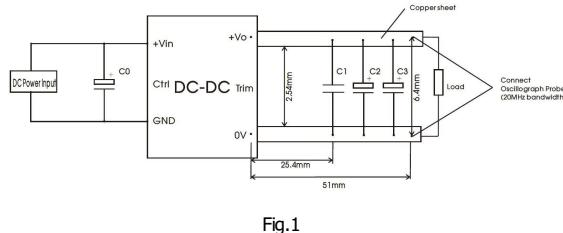

Fig.1
(1)The "Tip and barrel method" is used for ripple and noise test, for details please refer to Fig.1.
All the DC-DC converters of this series are tested before delivery using the recommended circuit shown in Fig. 1.